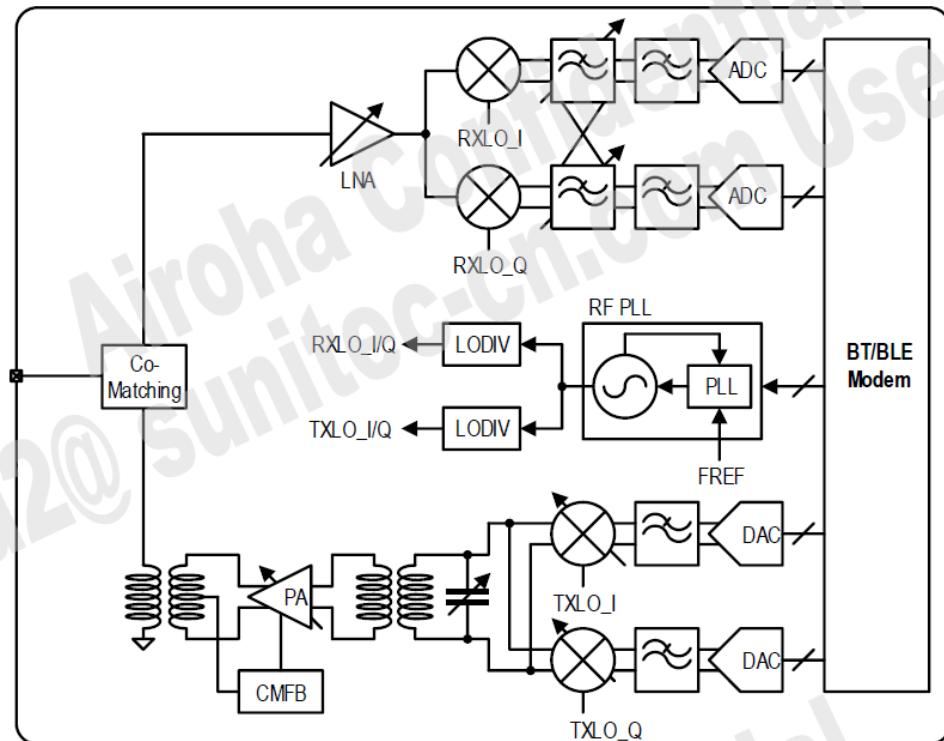

Figure 5.1-1 BC1.2 Bluetooth RF transceiver system
The MT2833 series Bluetooth (BT) RF subsystem (as shown in *Figure 5.1-1*) consists of a highly integrated transceiver with tunable on-chip RF band pass filter (BPF) and BT TRX co-matching network.